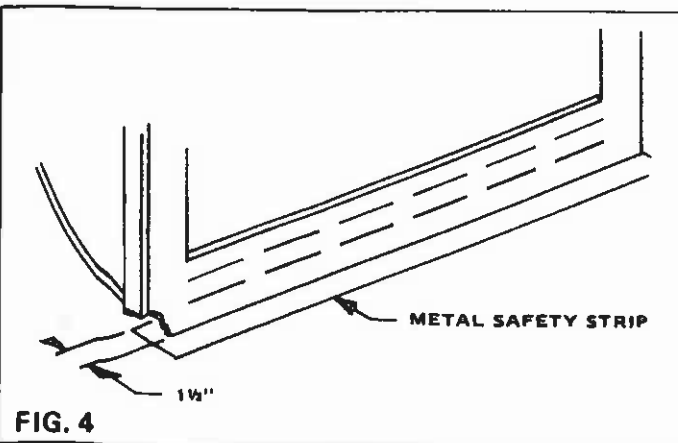

FIG. 4
STEP 4: When the fireplace is installed upon a combustible floor a galvanized steel ember protector must be installed between the fireplace and the hearth extension as illustrated in FIG. 4 or use a sand-cement grout between the fireplace and an on-site-constructed hearth extension. **CAUTION: FAILURE TO INSTALL MAY CAUSE A FIRE HAZARD.**